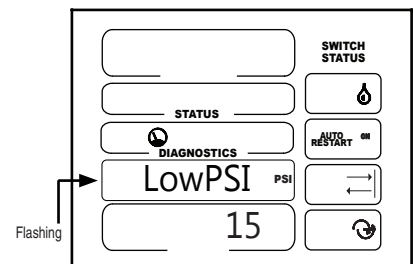

Figure 25-4
Low pressure is used during start up and operation of the machine. Range is 0 to 100 and default value is 15. See figure 25-4.
1. LowPSI should be flashing. See figure 25-4.